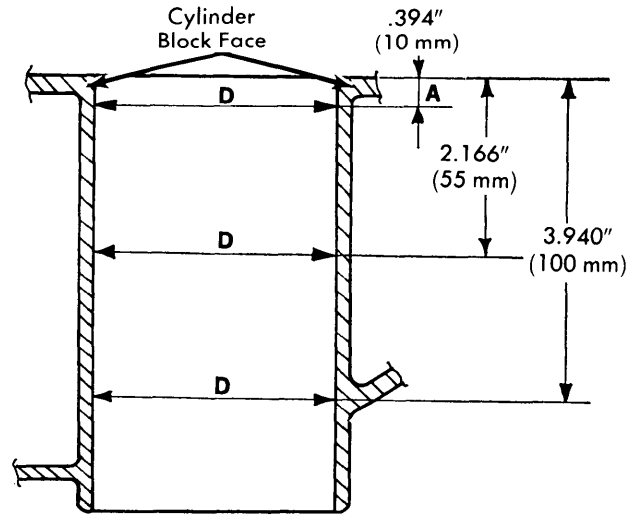

Fig. 7 Measuring Cylinder Bore Diameters
2) Measure cylinder diameters at points .394\" (10 mm), 2.166\" (55 mm), and 3.94\" (100 mm) below surface of block and parallel and at right angles to crankshaft. See Fig. 7.